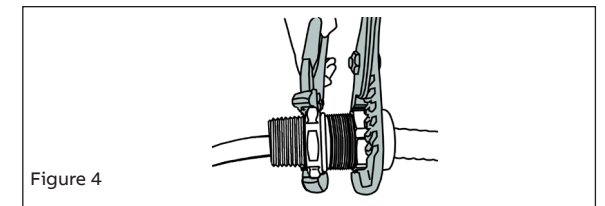

Figure 4
4. Tighten the gland nut until you obtain an appropriate seal or to the maximum torque (see table). The bushing should seal evenly around the cable's outer jacket. Ensure the cable remains centered to obtain an optimal seal (Figure 4).